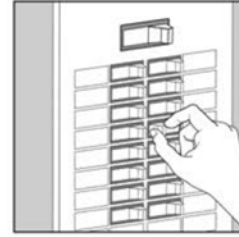

FIG.2
**FIG.2.** Place either the main (Master) switch to "OFF" position, cutting off power to your entire home OR turn off the individual switch that provides power to where the fixture will be installed.